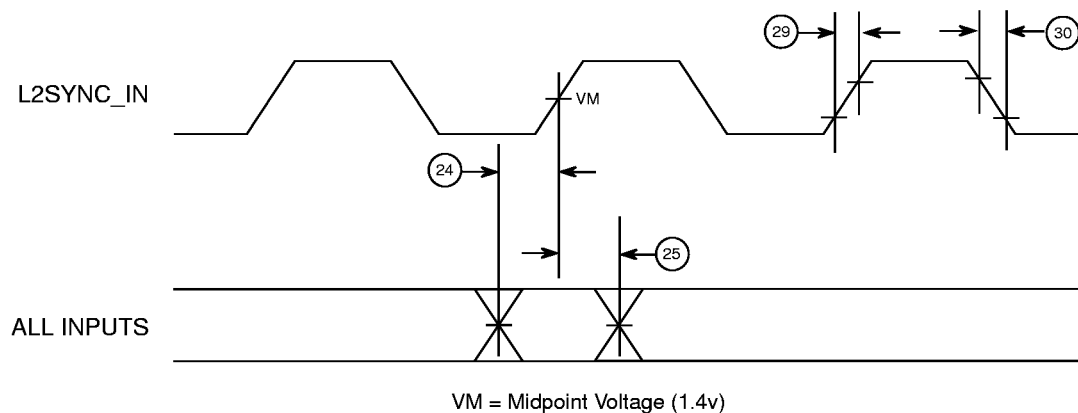

Figure 7. L2 Bus Input Timing Diagrams
1. All input specifications are measured from the midpoint voltage (1.4V) of the signal in question to the midpoint voltage of the rising edge of the input L2SYNC_IN. Input timings are measured at the pins (see Figure 7).
Figure 7 shows the L2 bus input timing diagrams for the PPC750.